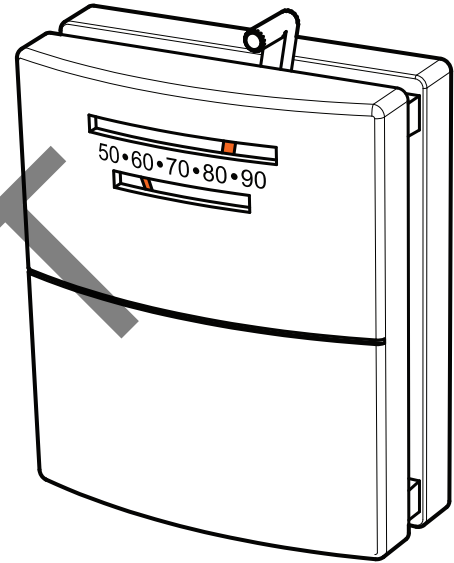

Figure 22.2
1. A low voltage thermostat is required to operate this pellet appliance. You may use the included wall mount thermostat (**Figure 22.2**) or purchase an optional programmable thermostat or remote control. It is equipped with an adjustable heat anticipator. The current rating is .05 amps. The anticipator needs to be adjusted to the lowest setting available.